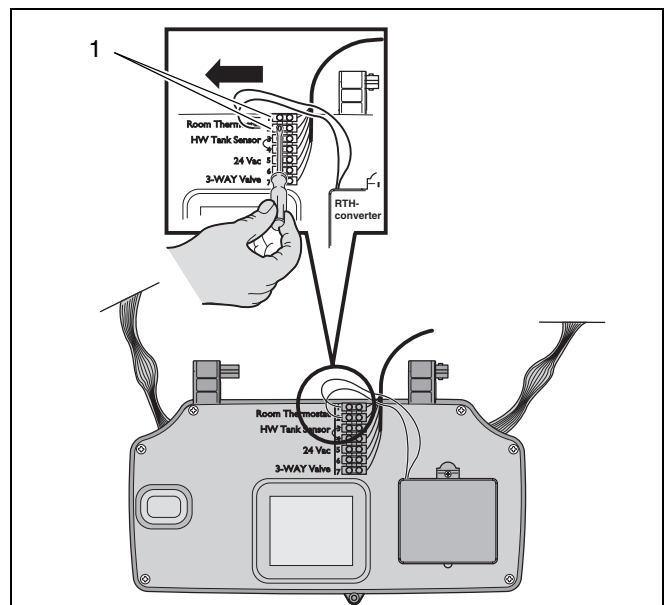

fig. 32 Room thermostat connection on DBA
- Disconnect the twin cable of the rth-converter from terminal 1 and 2 of the connection block (see fig. 32, item 1) on the back of the DBA.
- Connect the cable of the ModuLink 250 RF receiver to terminal 1 and 2 of the room thermostat connection on the back of the DBA (see fig. 32, item 1).